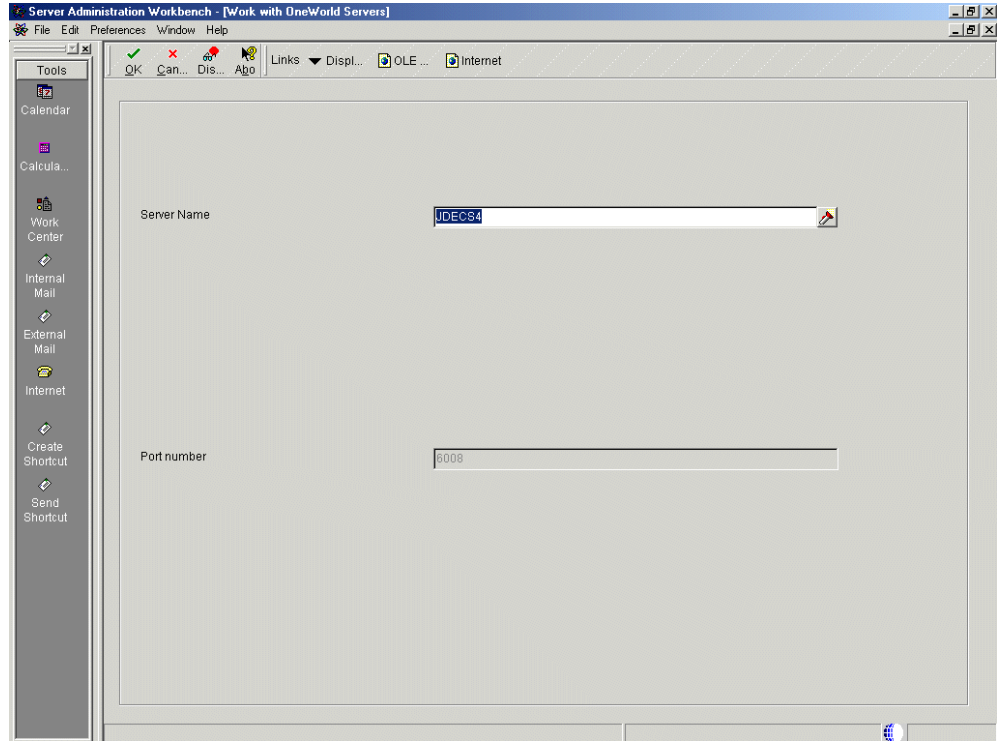

Figure 329. Work with OneWorld servers
3. Enter your AS/400 name in the Server Name field, and then click **OK** to access the display shown in Figure 329 on page 658.